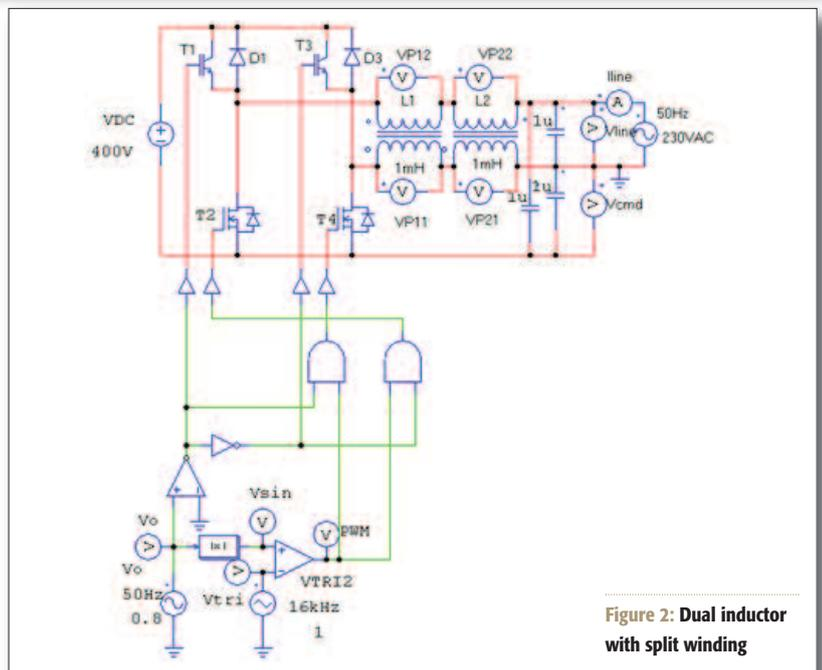

Figure 2: Dual inductor with split winding
The inductors L1 and L2 are for the differential mode (DM) and common mode (CM) voltage filter. Both have a double winding, one of each in both phase connection (Figure 2).